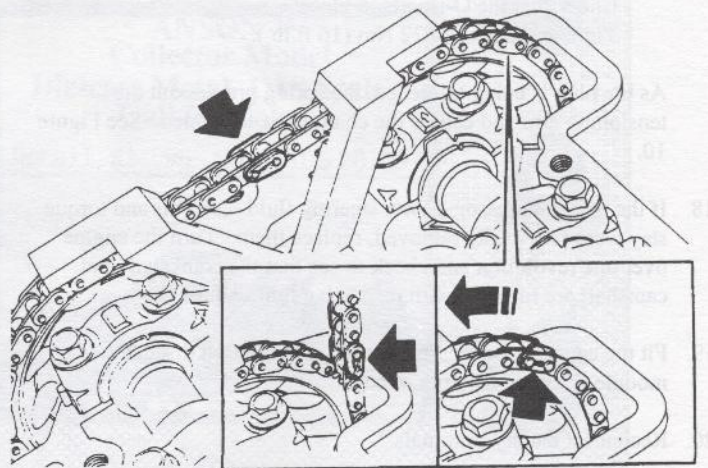

Figure 7: Joining ends of new chain.
12. When the new chain has been installed so that only a few links are still resting on the camshaft sprocket on the inlet side, protect the area surrounding the chain with a cloth. Remove the old chain link and chain. (See Figure 7).
13. Using a chain link, join the ends of the new chain together and pull the chain around until the link is midway between the legs of the chain support. See Figure 7.